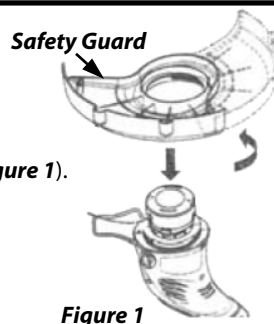

Figure 1
1. Position the Safety Guard as shown and slide it down over the Lug on the Motor Housing (**Figure 1**).
2. Turn the Guard counterclockwise to lock into position (**Figure 1**).